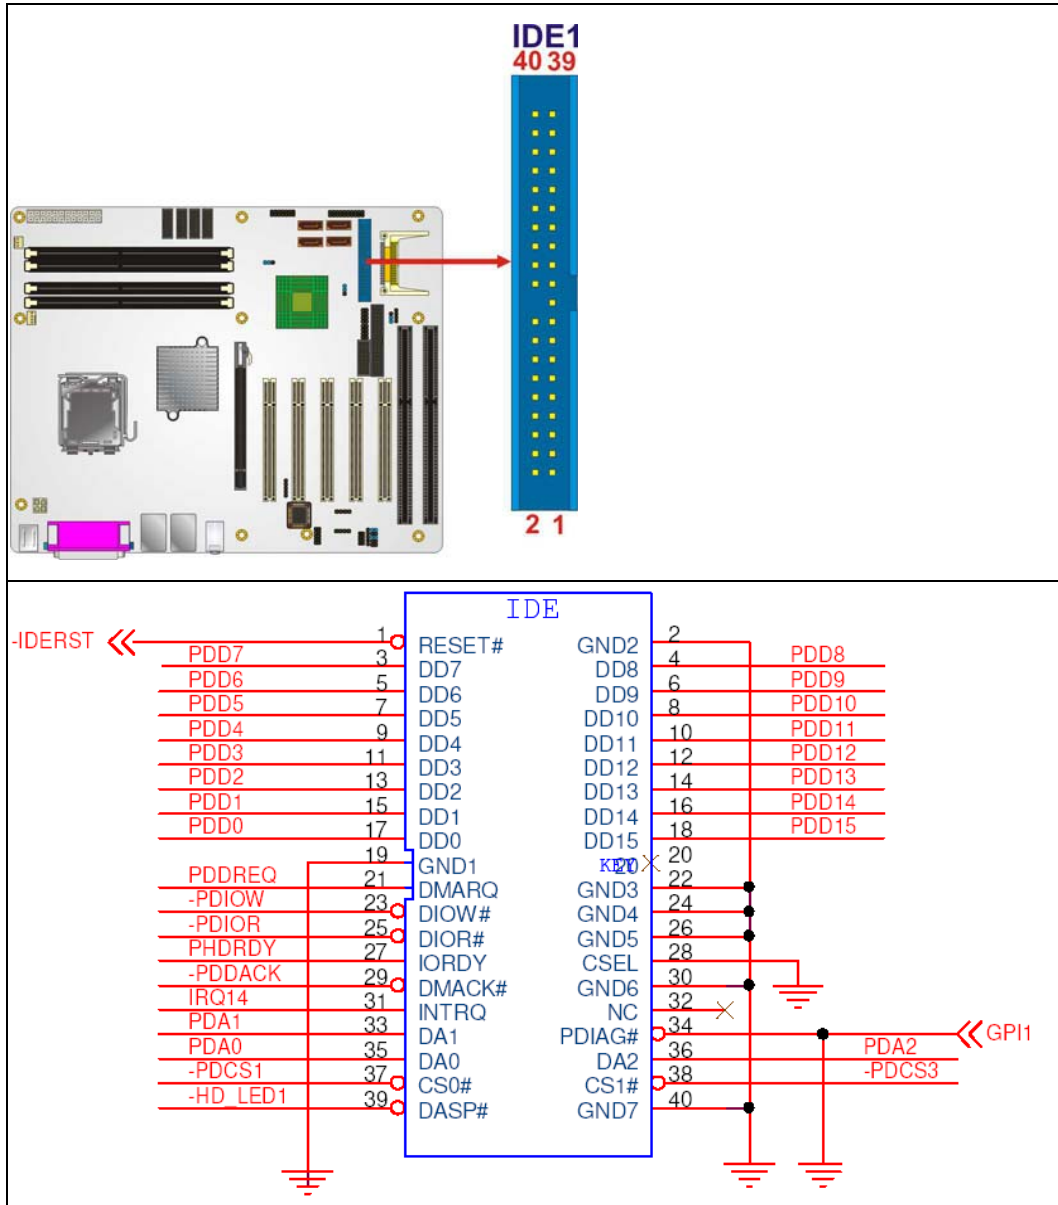

Figure 4-13: IDE Device Connector Locations
- CN Location:** See Figure 4-13